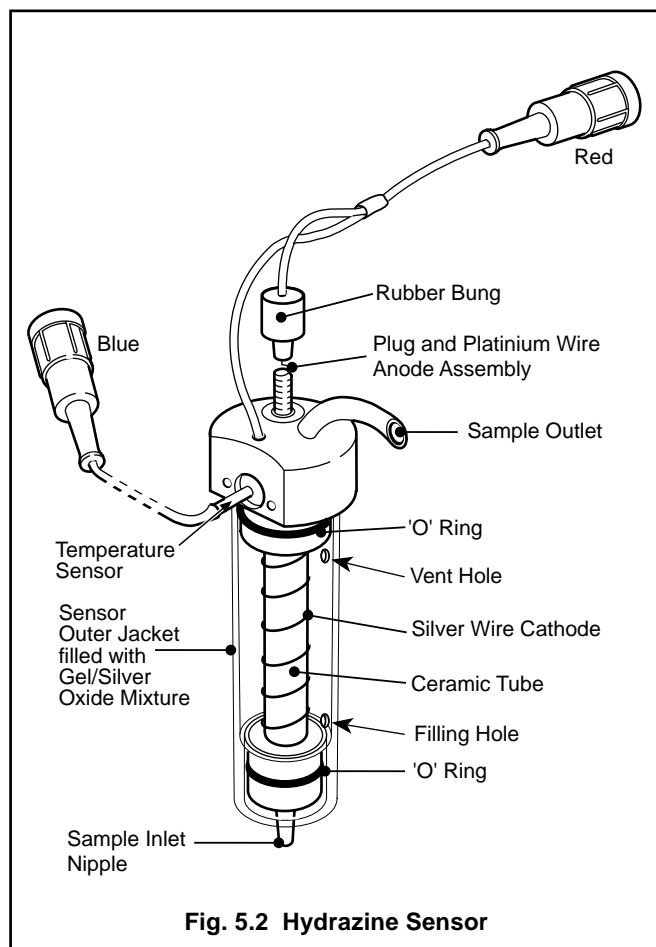

Fig. 5.2 Hydrazine Sensor
5.4.3 Cleaning the Platinum Anode and Sensor Ceramic (Fig. 5.2)
Sensor disassembly (Fig. 5.2)
Sensor assembly (Fig. 5.2)